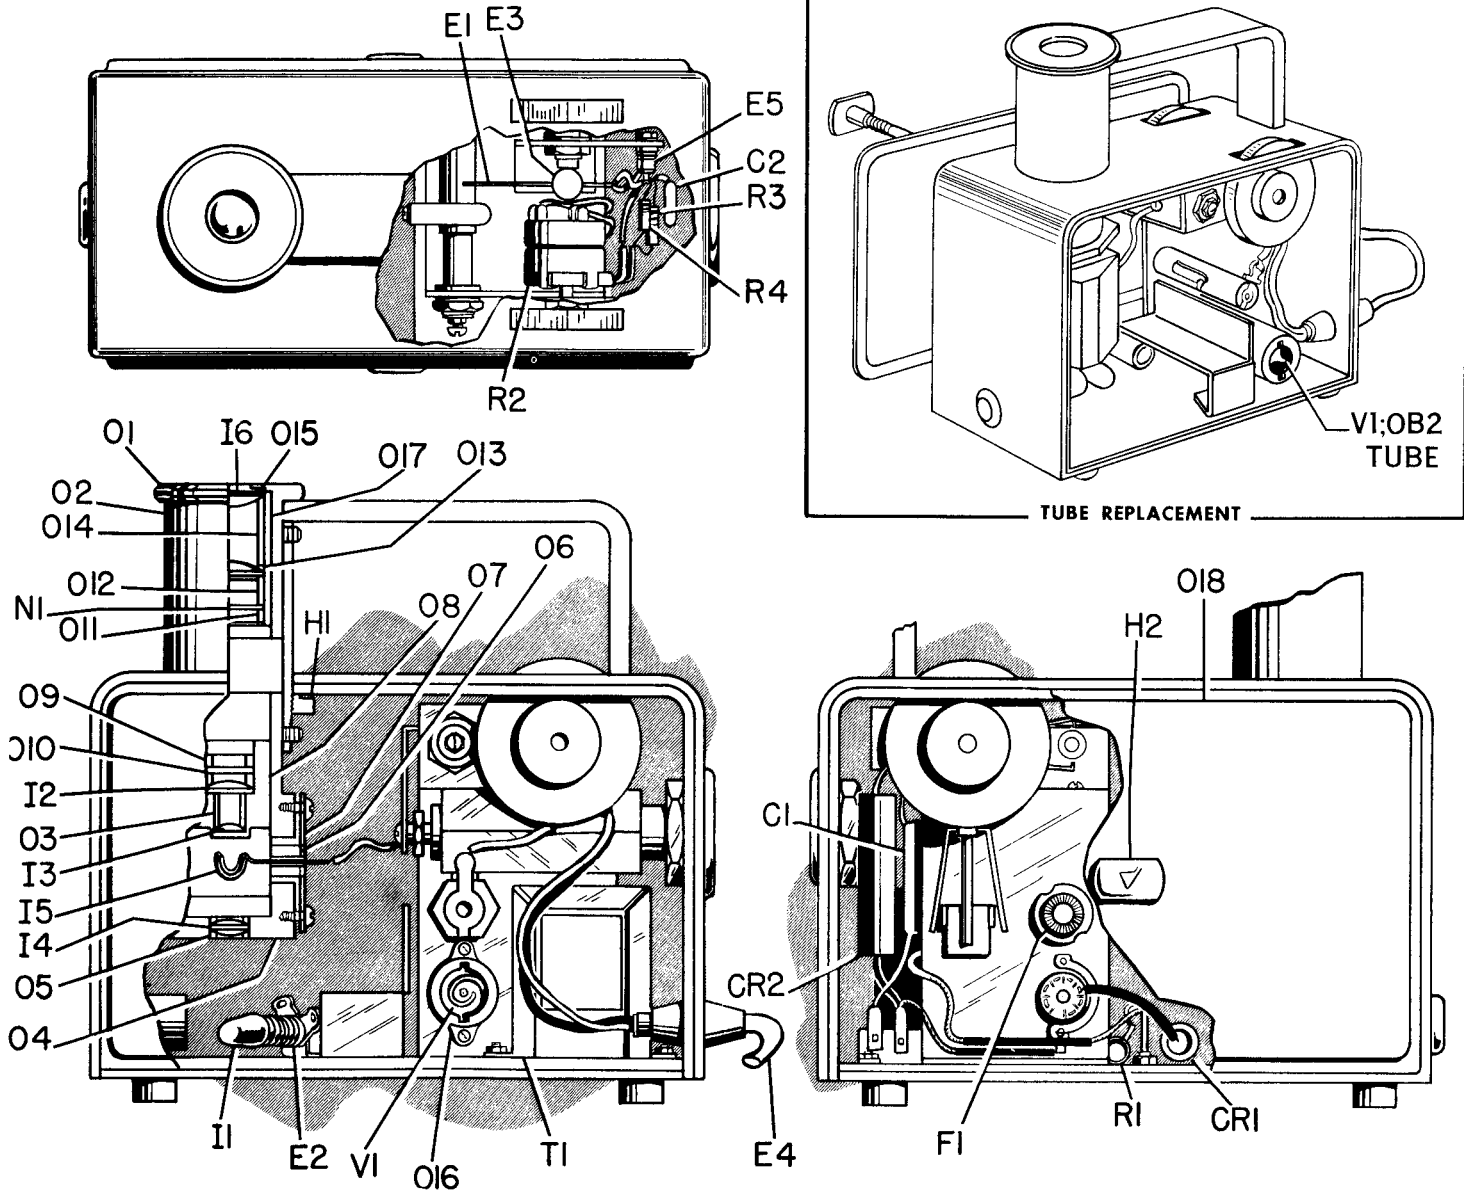

Figure 5. Referenced Illustration and Tube Replacement.
- (1) Remove side plates.
- (2) Remove tube shield.
- (3) Remove tube and replace, Figure 5, page 16.
- (4) Replace tube shield.
- (5) Reassemble.